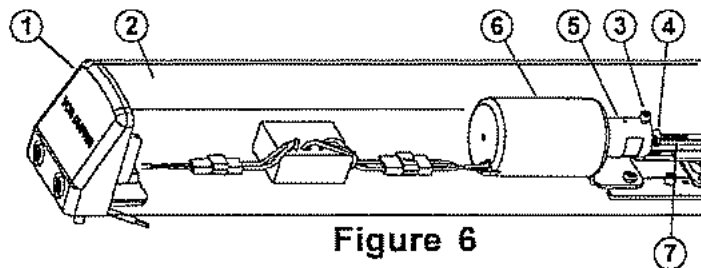

Figure 6
C. Adjust solenoid if dogging rod is too long (see Figure 6):
1. Remove end cap ① and dogging cover ②.
2. Loosen cap screw ③.
3. Hold plunger ④ depressed in solenoid housing ⑥.
6. Replace dogging cover ② and end cap ①.
D. Solenoid adjustment if dogging rod adjustment is too short (see Figure 6):